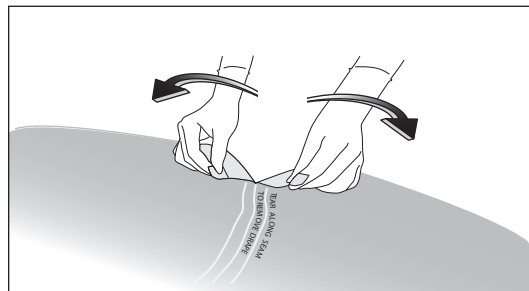

Figure 14
- Tear along seam to remove drape (refer to Figure 14).